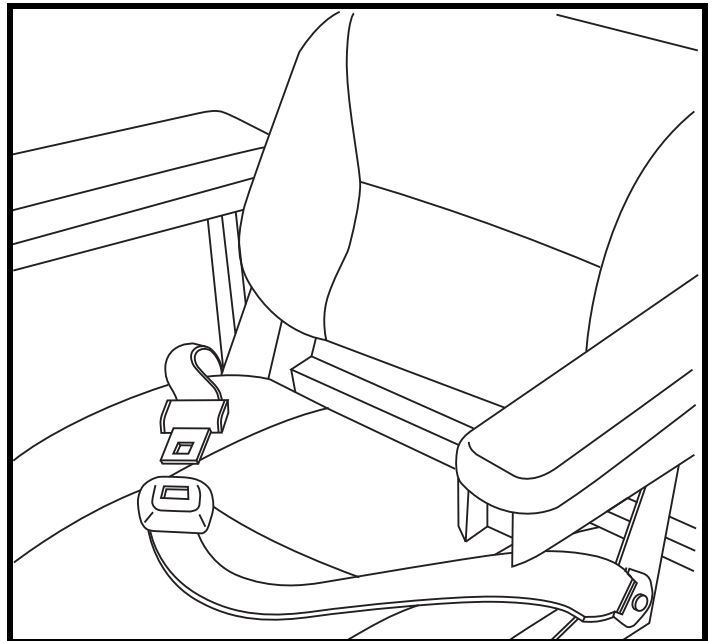

Figure 29. Positioning Belt Attachment on a Contour Seat
Your power chair may be equipped with a positioning belt that can be adjusted for operator comfort. See figure 29 and 30. The positioning belt is designed to support the operator so that he/she does not slide down or forward in the seat. The positioning belt is not designed for use as a restraining device.
1. Once seated, insert the metal tab on one side of the belt into the plastic housing on the opposite side until you hear a click. See figure 29 or 30.